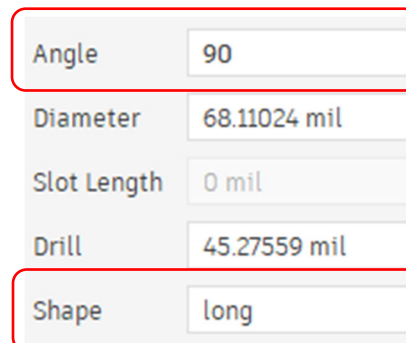

Figure 31 - Change the angle and shape of the pads.
- h. Verify the part on the PCB has swapped to the new version. As shown in Figure 31 below, the drill hole sizes and pad shapes are now uniform.